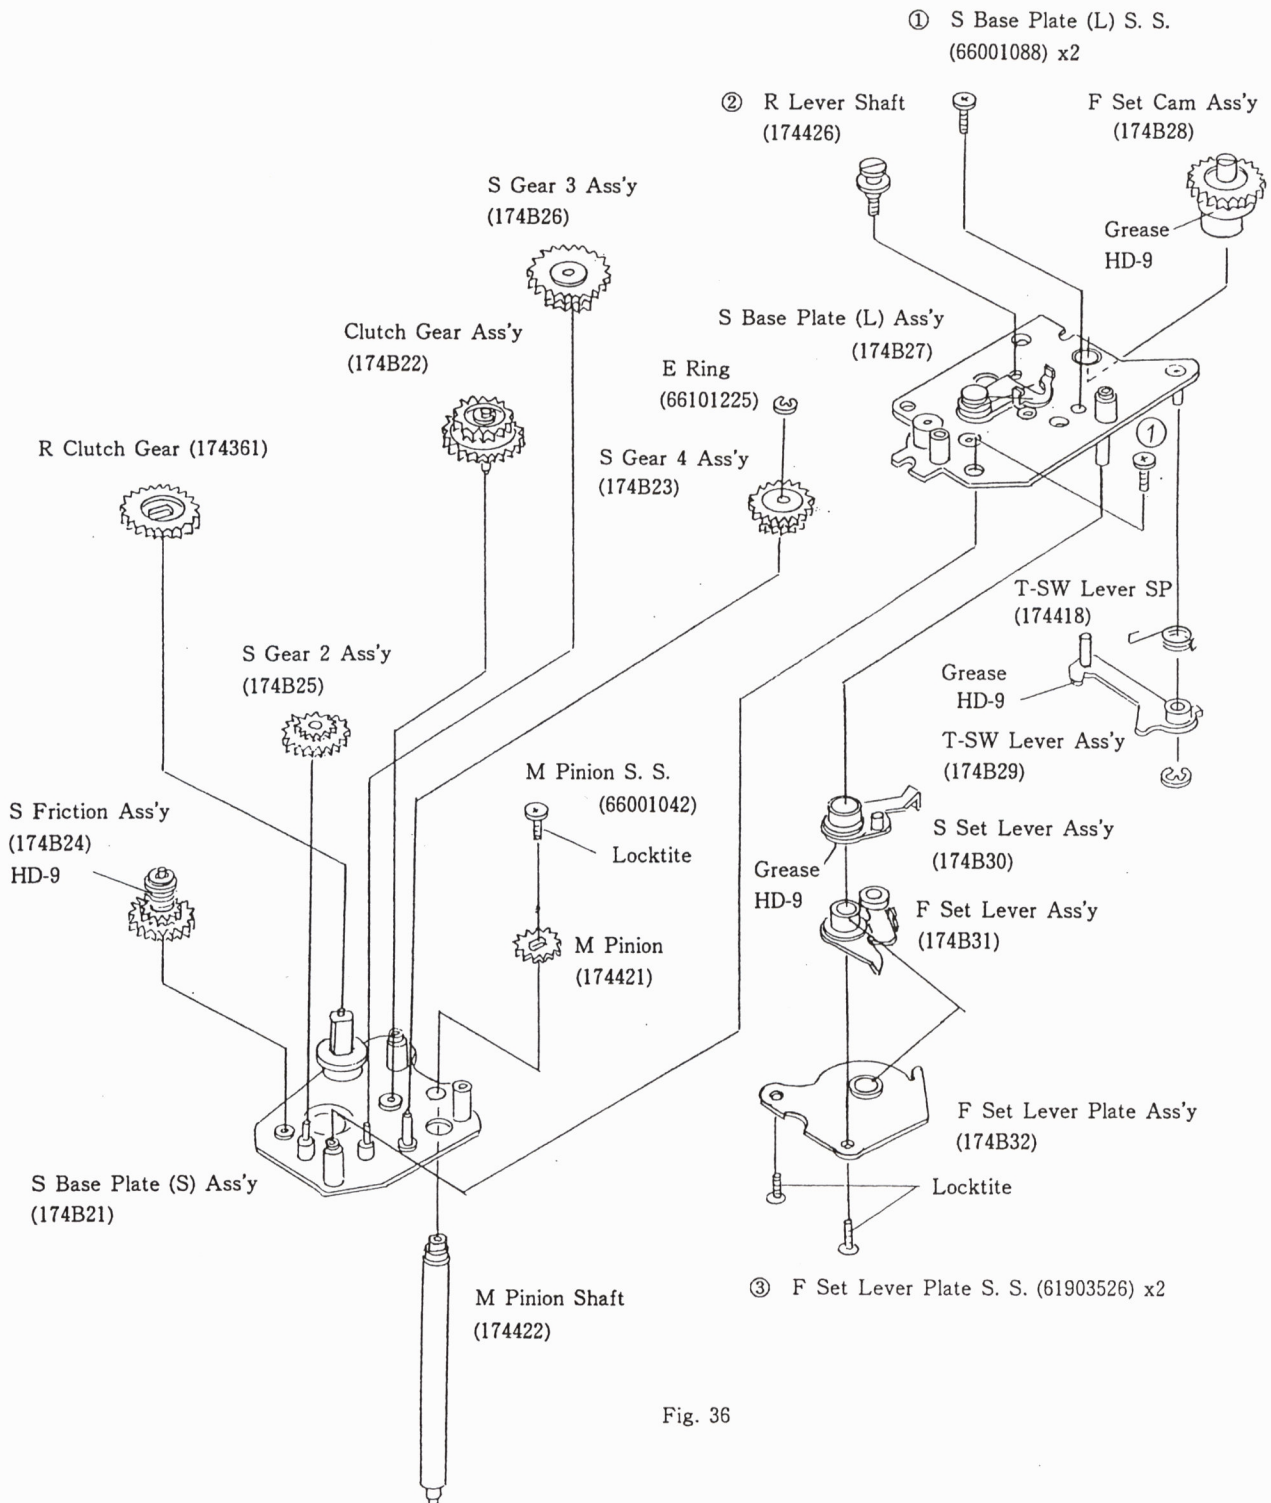

Fig. 36
2) Remove the respective parts ①~③ shown in (Fig 36) in numerical order.